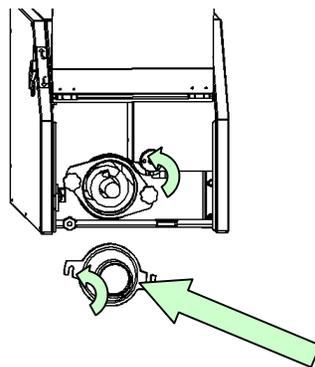

Fig. 11
6. As in Fig. 11, remove the extrusion cone, unscrewing the two nuts.